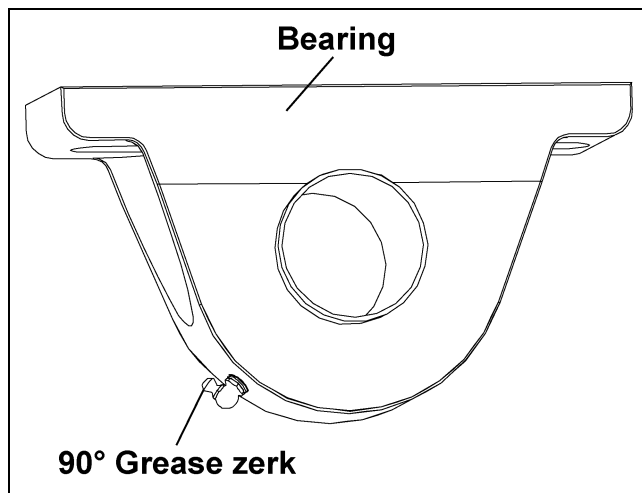

Figure 5Q
- B. Replace standard grease zerks with 90° grease zerks on both bearings. Make sure the 90° grease zerk is turned as shown in Figure 5Q, so the zerks are accessible from the center of the tractor drive stand.
- D. Attach Bottom Chain Guard Weldment to Tractor Drive Stand using 3/8" x 1-1/4" HHCS bolts, 3/8" split lock washers, and 3/8" hex nuts. *(See Figure 5Q on Page 34.)*